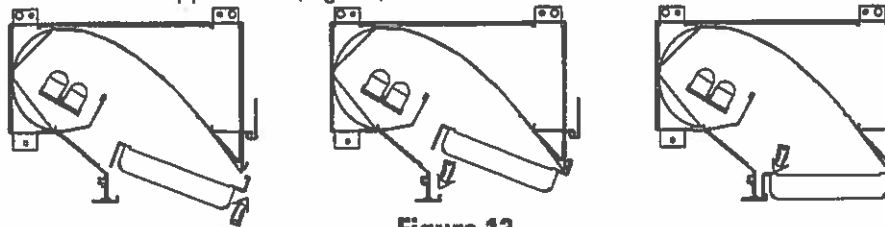

Figure 13
6. Replace the louver or lens if applicable. (Fig. 13)